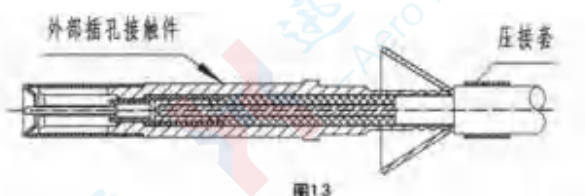

图13
⑥ Mount the outer contact onto the center contact and under the cable shield layer as shown in Figure 13 until the center contact and insulators are fully abutted.